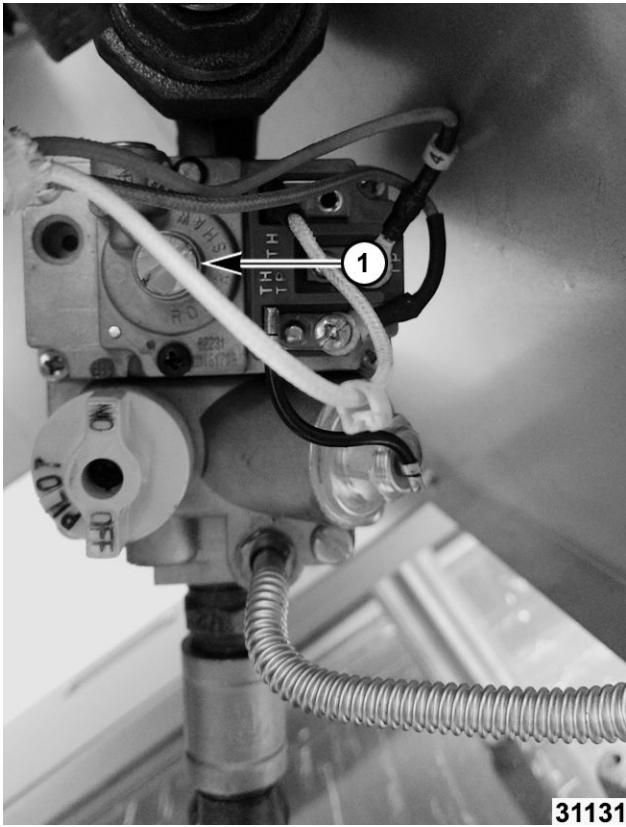

Fig. 39
- B. Turn adjustment screw (1, Fig. 39):